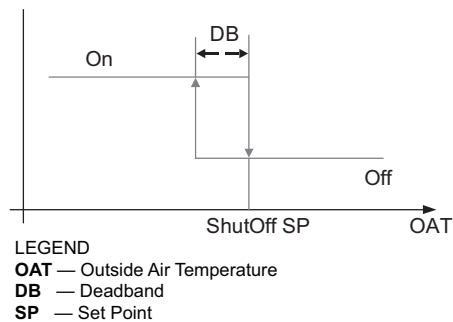

Fig. 54 — Hysteresis Settings
Hysteresis setting (DB) defaults to 2°F (–16.6°C). See Fig. 54.